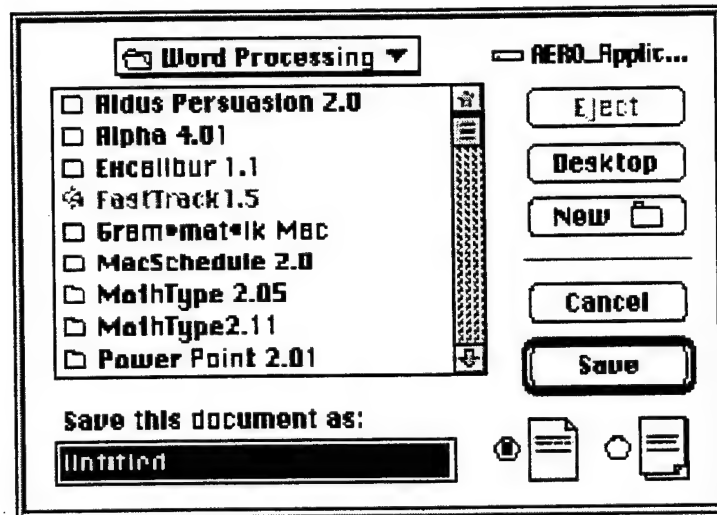
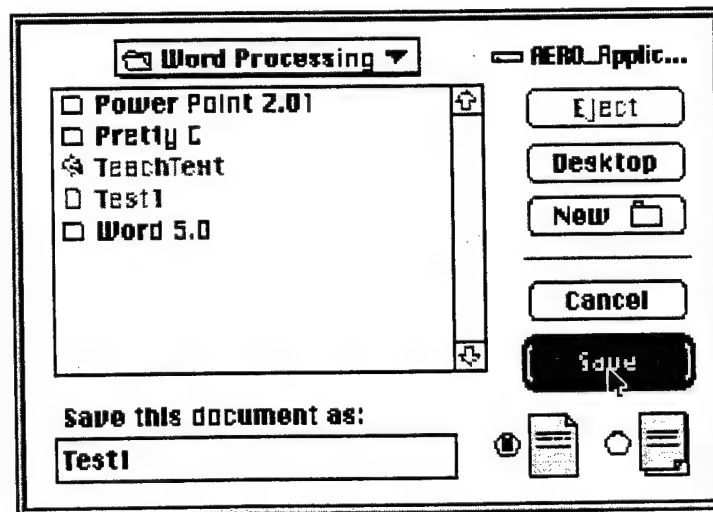

Figure 2.6: Dialog box asking the user how to save the newly created document
Figure 2.7: Saving the document as Test1
5. A dialog box will appear, as shown in Figure 2.6. Type in the name Test1, as shown in Figure 2.7, then click on the **Save** button.